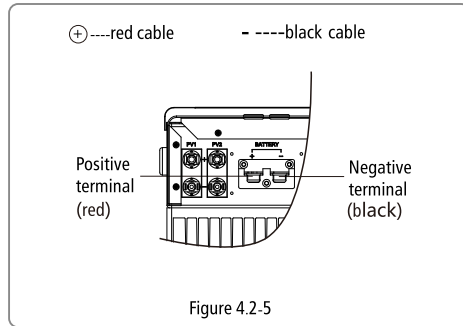
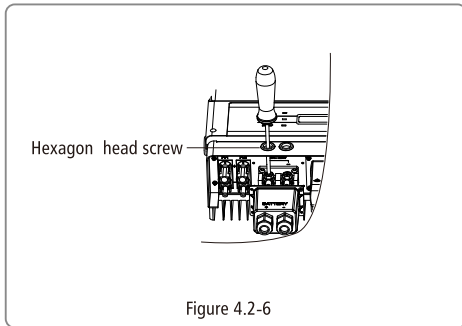
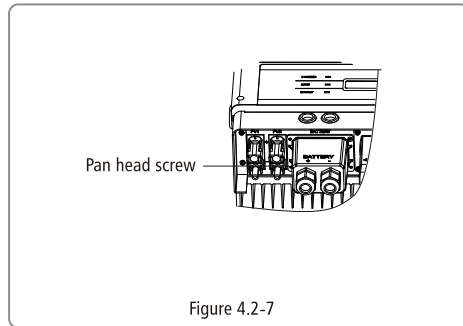

Figure 4.2-5
Figure 4.2-6
Figure 4.2-7
- (7) Put battery terminals into the corresponding holes (Red to the positive terminal; Black to the negative terminal.) and fasten them by screwdriver and spanner (recommended torsion: 6~8N.m), then fasten battery cover with pan head screws in accessory bag. Refer to Figure 4.2-5, Figure 4.2-6, Figure 4.2-7.
- (8) Screw down screw cap again.